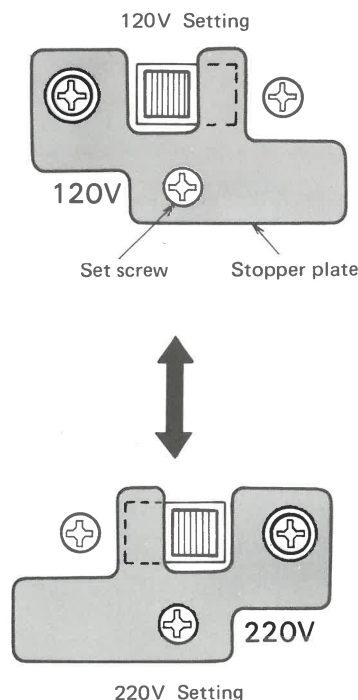

Fig. 1
- To reset the selector, remove the set screw and stopper plate. Switch the lever to opposite side. Lock the lever by attaching stopper plate with the set screw. (Fig. 1)